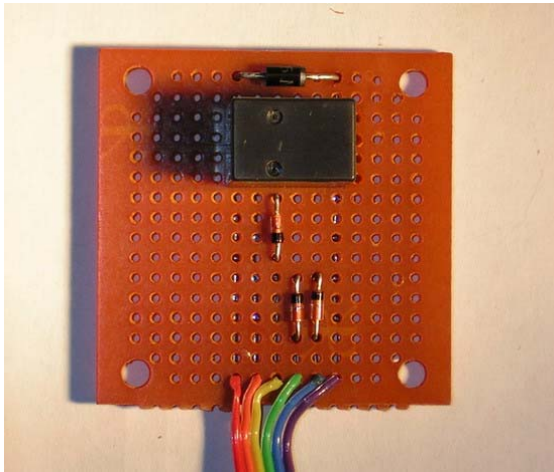
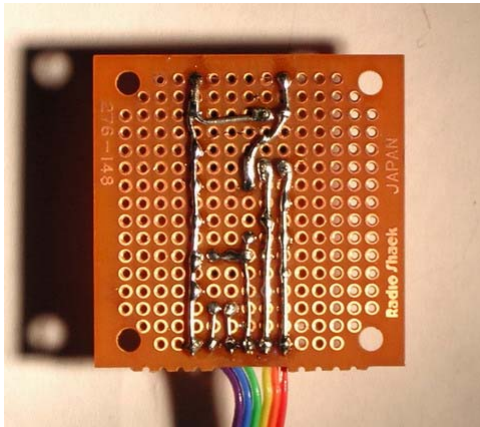
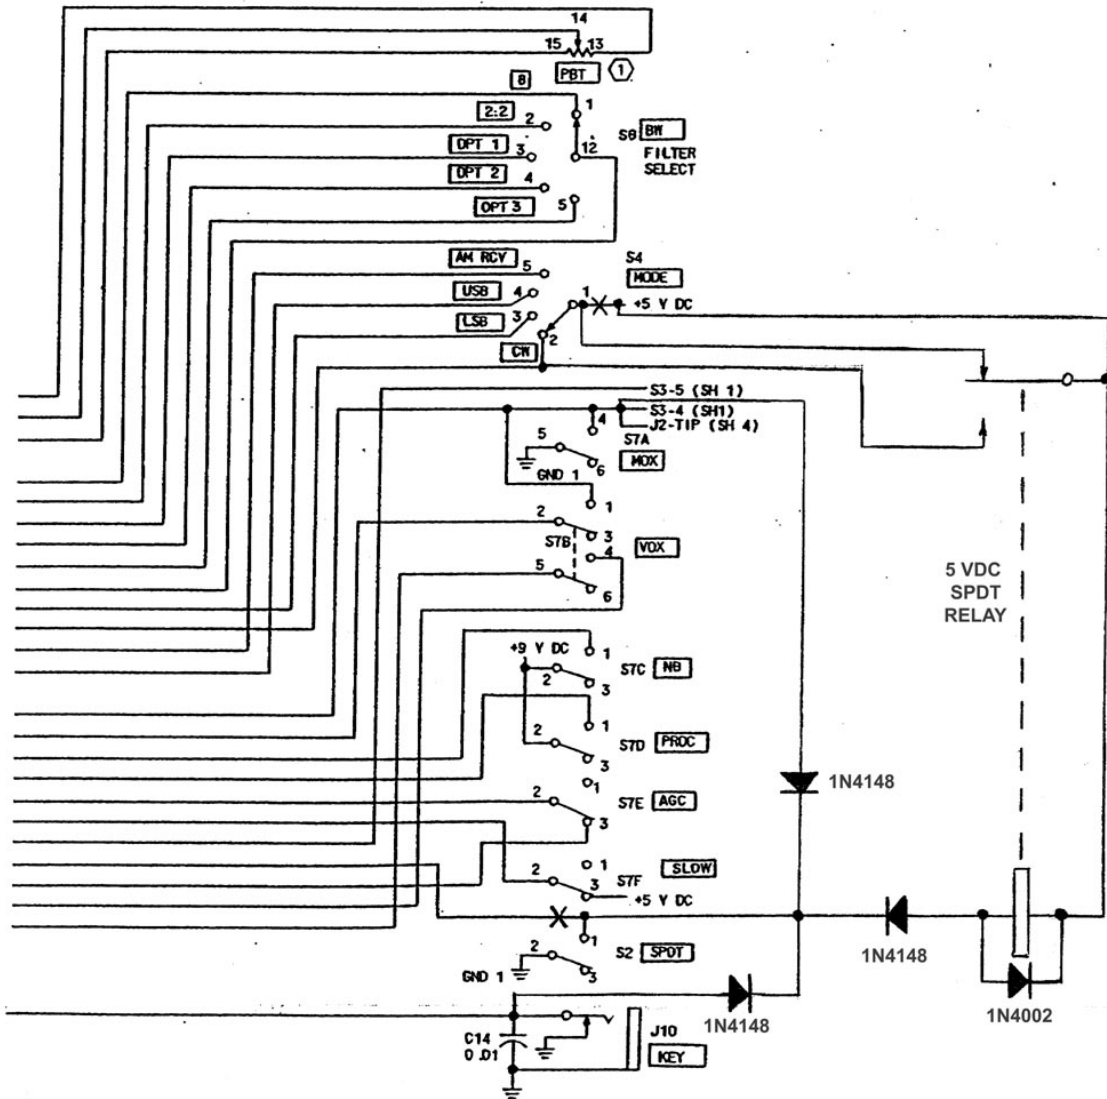

Figure 1
Figure 2
Figure 4
- D. Using a small piece of perforated circuit board and the pictures in Figure 1 and Figure 2 and the schematic in Figure 4 as a guide, create a circuit board for the SPDT relay, the three 1N4148 diodes and the one 1N4002 diode.